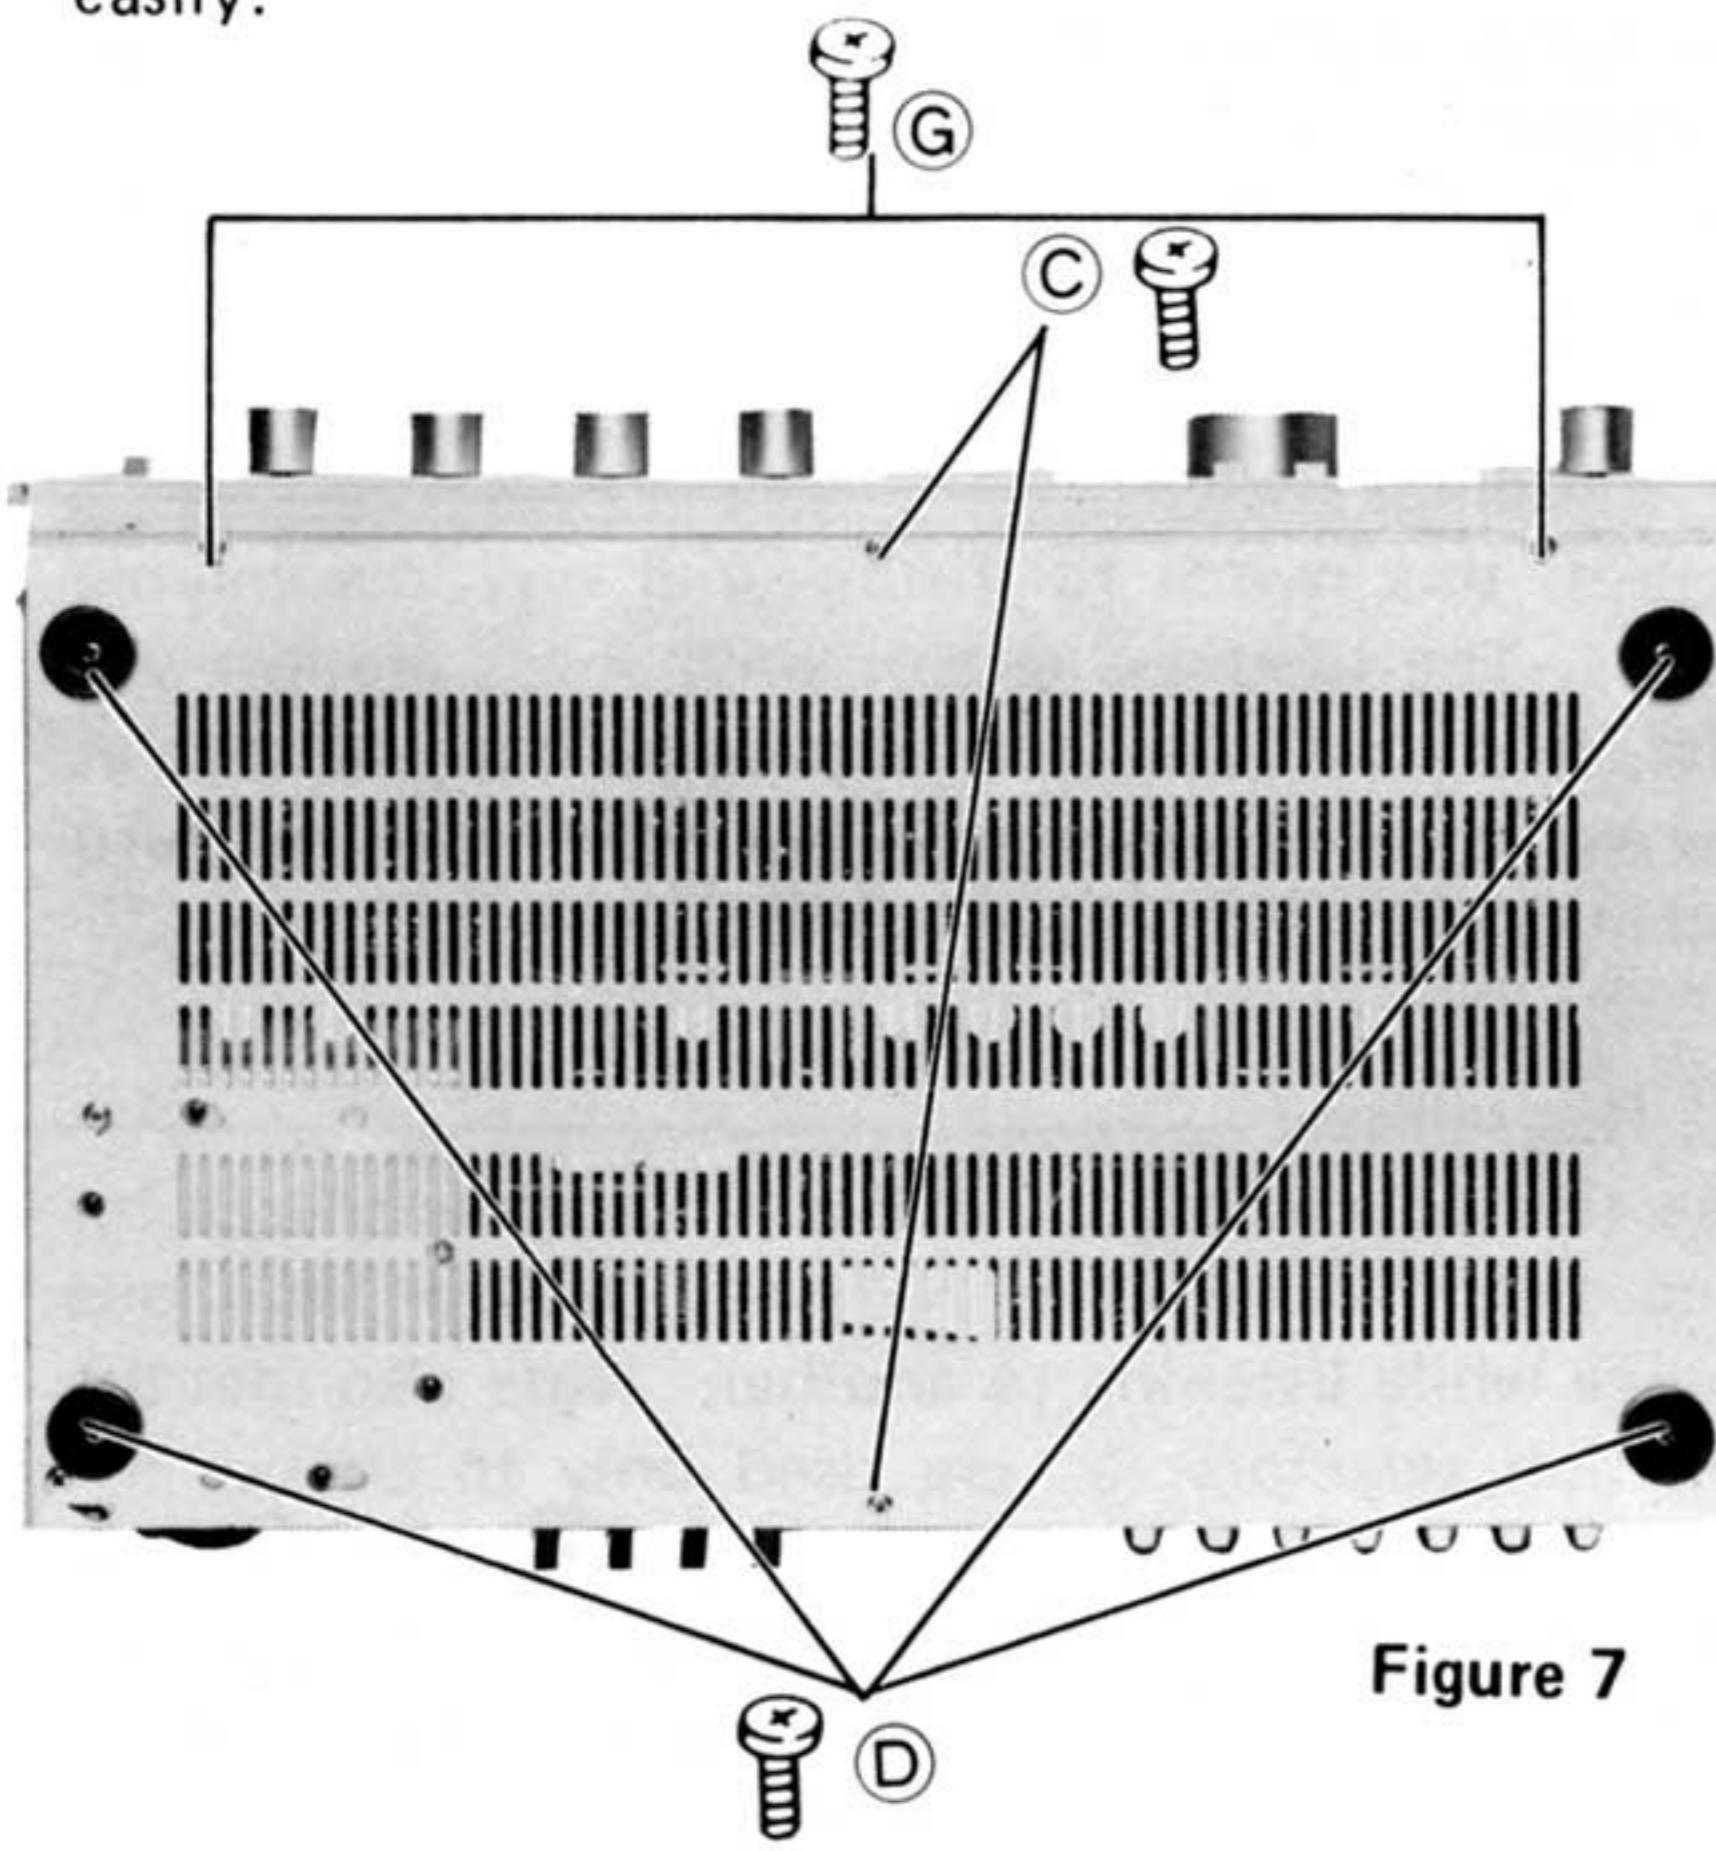

Figure 7
- 1 Remove two screws **C** ($3\phi \times 6\text{mm}$). See Figure 7.
- 2 Remove four screws **D** ($3\phi \times 8\text{mm}$) holding the feet and bottom plate, then the bottom plate can be removed from the unit. See Figure 7.
- 4 Remove two screws **G** ($3\phi \times 6\text{mm}$) holding the back plate. See Figure 7.